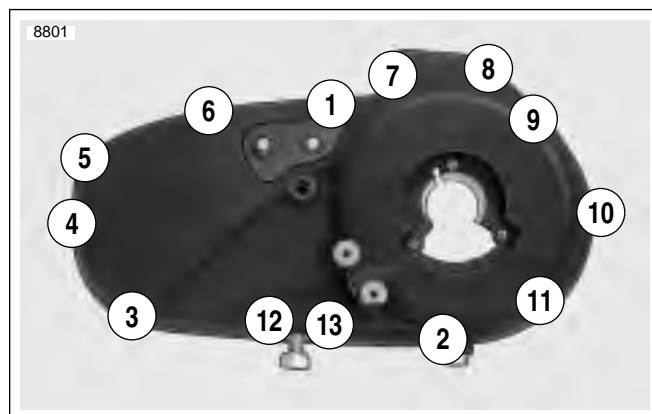

Figure 6-5. Primary Cover Tightening Sequence (Typical)
4. See Figure 6-5. Tighten fasteners to 100-120 in-lbs (11.3-13.5 Nm) in sequence shown.